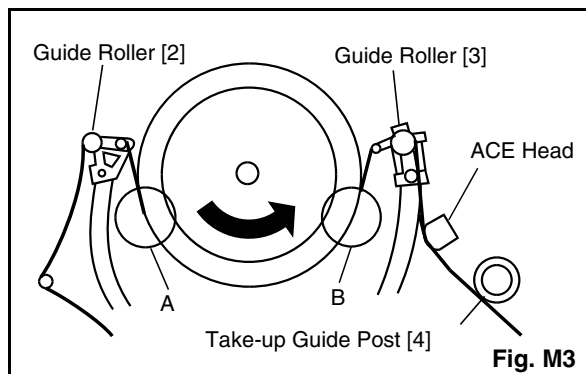

Fig. M3
1. Playback a blank cassette tape and check to see that the tape runs without creasing at Guide Rollers [2] and [3], and at points A and B on the lead surface. (Refer to Fig. M3 and M4.)
2. If creasing is apparent, align the height of the guide rollers by turning the top of Guide Rollers [2] and [3] with a Guide Roller Adj. Screwdriver. (Refer to Fig. M3 and M5.)
3. Check to see that the tape runs without creasing at Take-up Guide Post [4] or without snaking between Guide Roller [3] and AC Head. (Fig. M3 and M5)
- Playback the Gray Scale on the Alignment Tape (FL6N8). Set the Tracking Control Circuit to the center position by pressing CH UP button and then "PLAY" button on the unit. Adjust the height of Guide Rollers [2] and [3] (Fig. M3, Page 2-3-7) watching the oscilloscope display so that the envelope becomes as flat as possible. To do this adjustment, turn the top of the Guide Roller with the Guide Roller Adj. Screwdriver.
- If the envelope is as shown in Fig. M7, adjust the height of Guide Roller [2] (Refer to Fig. M3) so that the waveform looks like the one shown in Fig. M9.
- If the envelope is as shown in Fig. M8, adjust the height of Guide Roller [3] (Refer to Fig. M3) so that the waveform looks like the one shown in Fig. M9.
- When Guide Rollers [2] and [3] (Refer to Fig. M3) are aligned properly, there is no envelope drop either at the beginning or end of track as shown in Fig. M9.
Note: Upon completion of the adjustment of Guide Rollers [2] and [3] (Refer to Fig. M3), check the X Value by pushing the CH UP or DOWN buttons alternately, to check the symmetry of the envelope. Check the number of pushes to ensure center position. The number of pushes CH UP button to achieve 1/2 level of envelope should match the number of pushes CH DOWN button from center. If required, redo the "X Value Alignment."